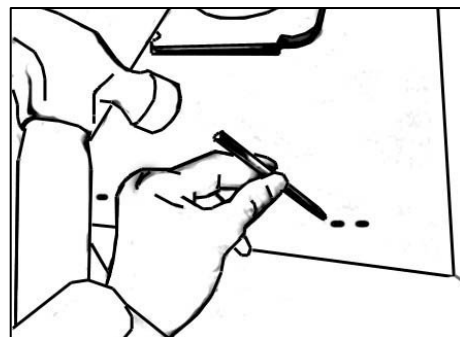

Figure 3
1. Puncture the knockout holes (for mounting under the cabinet) on the hood as shown in Figure 3.